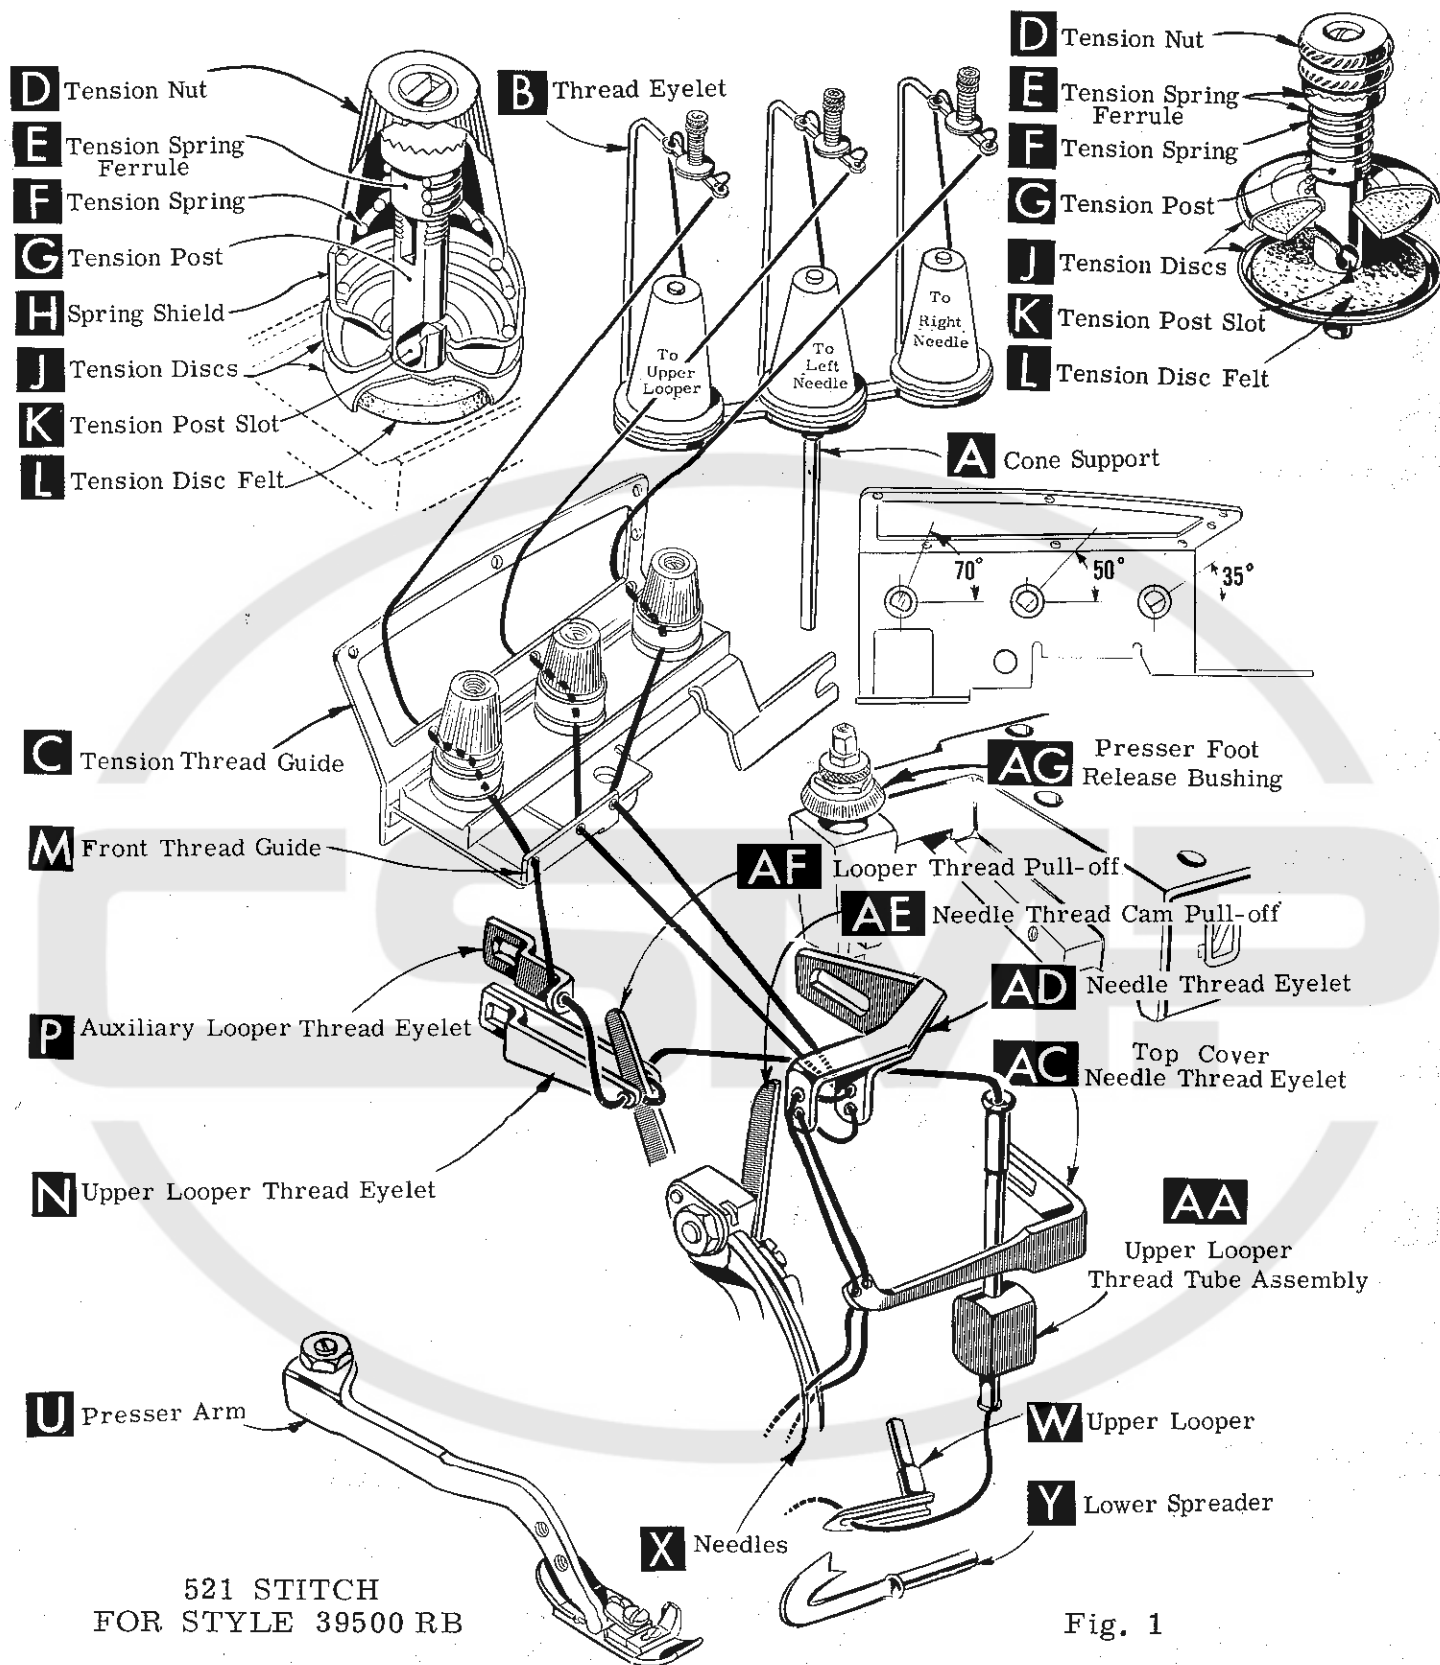
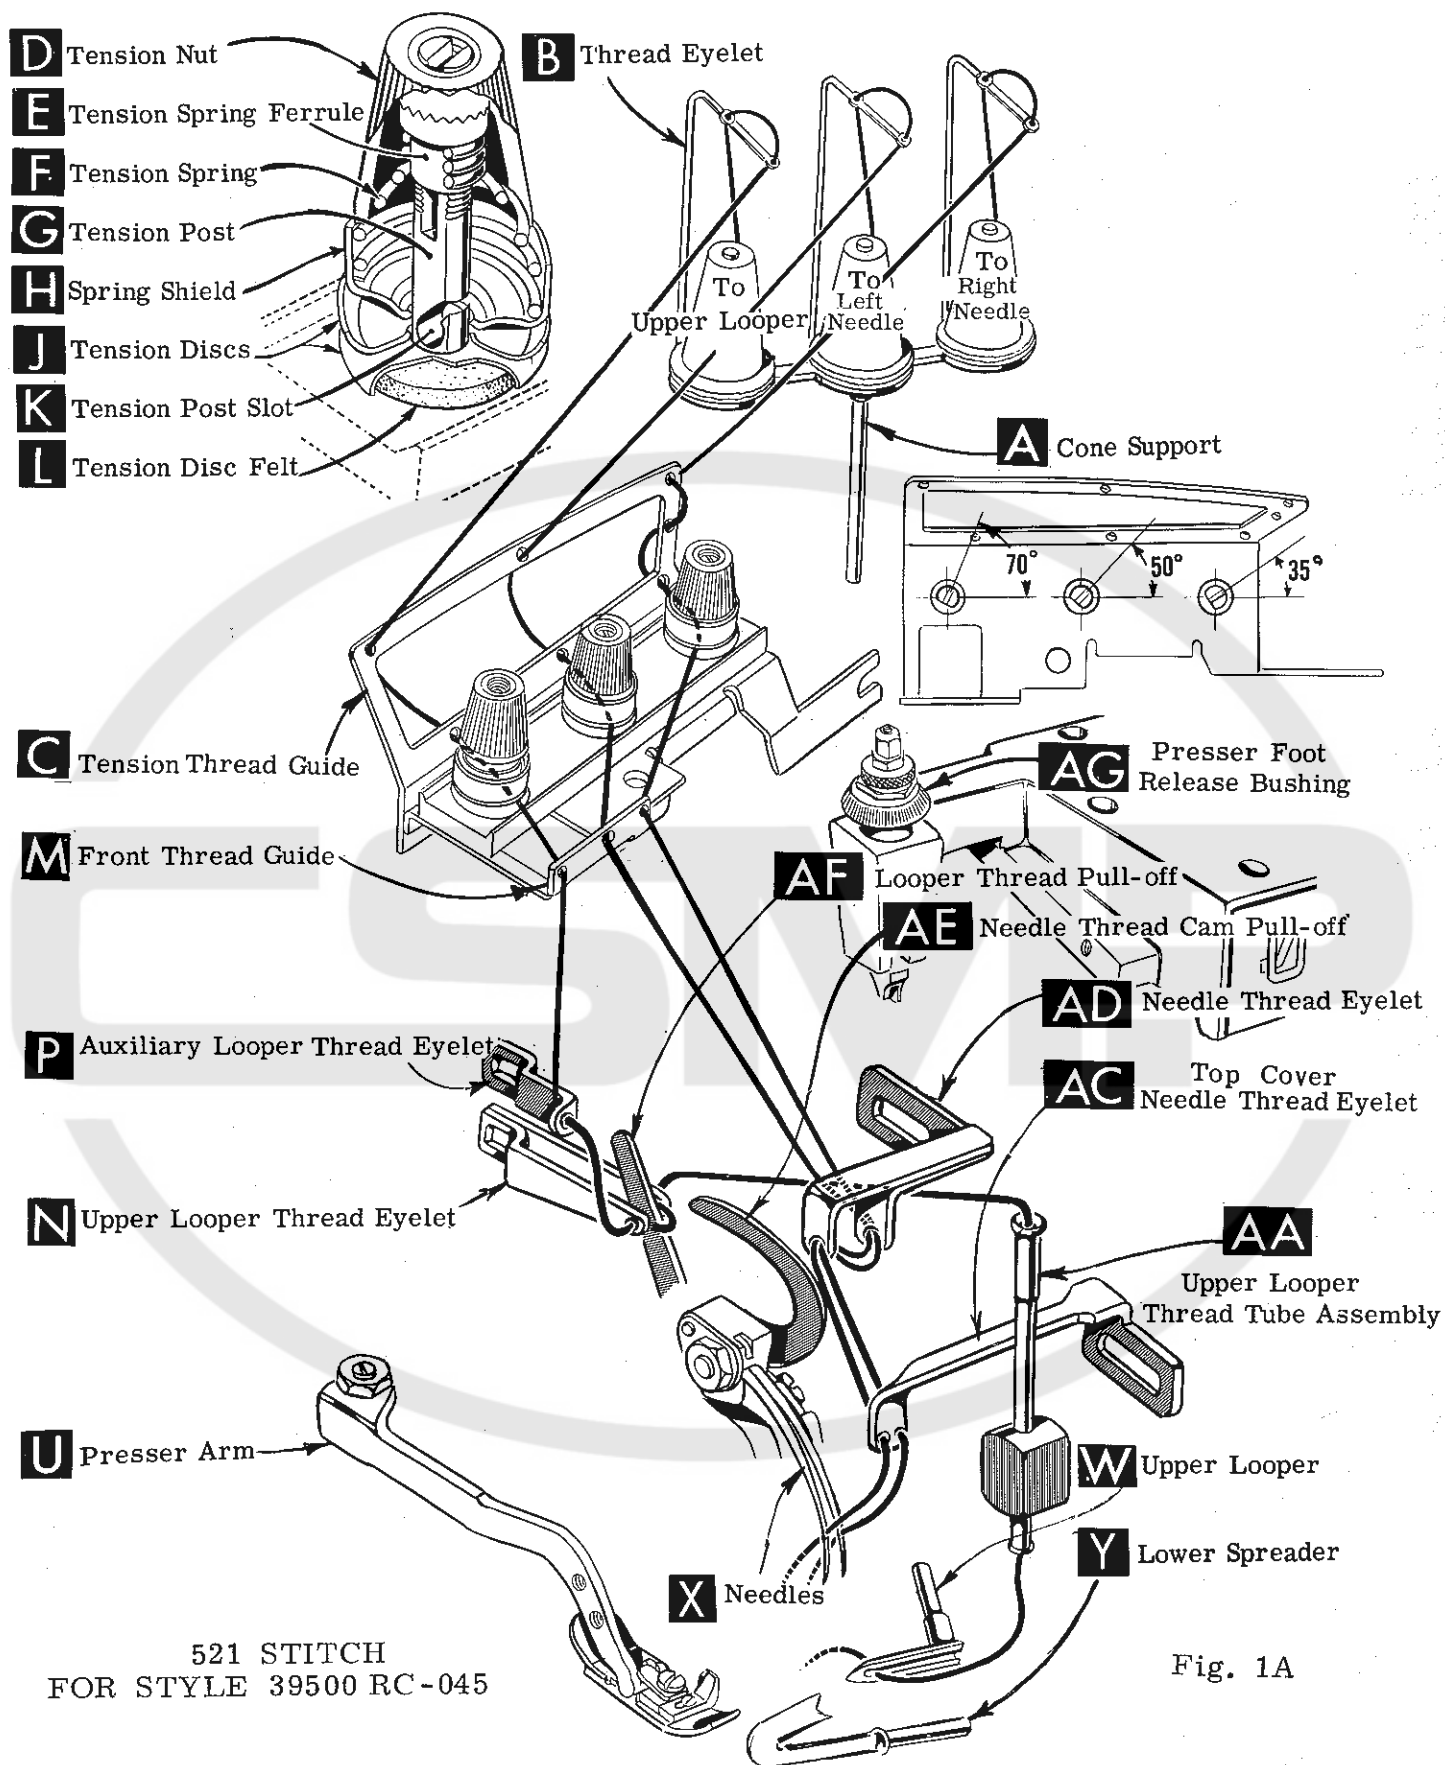
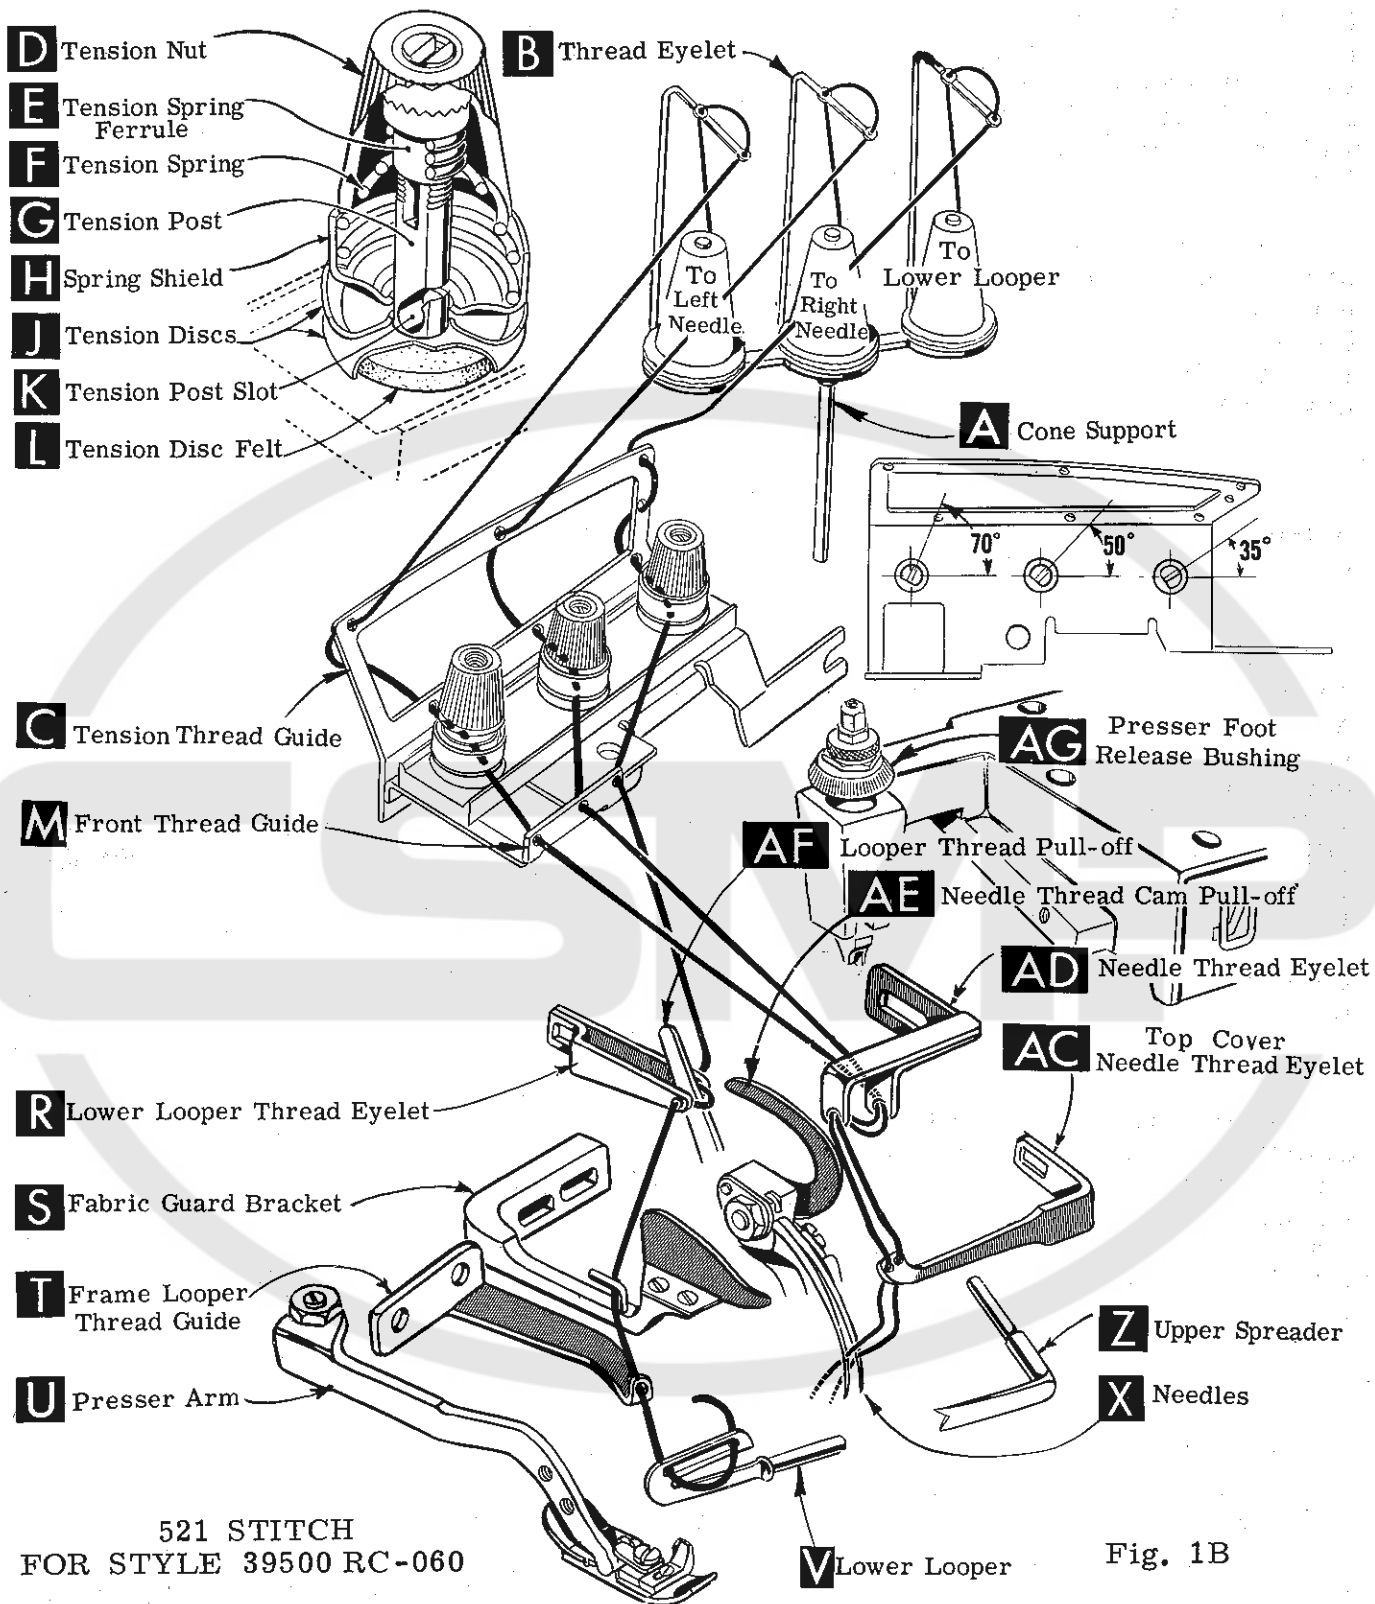

Fig. 1
Fig. 1A
Fig. 1B
Release pressure on presser foot by turning presser foot release bushing (AG, Fig. 1, 1A or 1B) and swing presser arm (U) out of position. Turn handwheel in operating direction until needles are at their lowest point of travel. Using hexagonal socket wrench No. 21388 AU, furnished with machine, loosen needle clamp nut about 1/4 turn. Again turn handwheel until needles are at high position. Withdraw needles.
After thread comes from cones on cone support (A, Fig. 1) it is brought up through the back hole of thread eyelet (B), then continues between tension disc felts (L), through tension post slot (K) of tension post (G), and down through front hole of thread eyelet. Now all threads are threaded through the lower holes of tension thread guide (C) from back to front.
After thread comes from cones on cone support (A, Fig. 1A) it is brought up through the back hole of thread eyelet (B), then down through the front hole of thread eyelet.
Now, the upper looper thread and the left needle threads are threaded through the upper holes (left and middle respectively) of tension thread guide (C, Fig. 1A) from front to back. Then through the lower holes from back to front. The right needle thread is threaded through the tension thread guide (C), first through the upper hole back to front, second through the middle hole front to back and third through the lower hole back to front.
After thread comes from cones on cone support (A, Fig. 1B) it is brought up through the back hole of thread eyelet (B), then down through the front hole of thread eyelet.
Now, the left and right needle threads are threaded through the upper holes (left and middle respectively) of tension thread guide (C, Fig. 1B) from front to back. Then through the lower holes from back to front.
Only parts involved in threading are shown in threading diagrams (Fig. 1, 1A and 1B). Parts are placed in their relative positions for clarity. Refer to Fig. 1 for threading of Style 39500 RB, Fig. 1A for threading of Style 39500 RC-045 and Fig. 1B for threading of Style 39500 RC-060.
Be sure the threads, as they come from the tension thread guide (C) are between tension discs (J) and in tension post slot (K) in tension post (G). The tension posts should be positioned so the tension post slot will be at the approximate angle for the different threads as indicated in Fig. 1, 1A or 1B.
Turn handwheel until point of upper looper (W, Fig. 1 and 1A) is all the way left. Lead thread through auxiliary looper thread eyelet (P) from back to front, then through both eyes of upper looper thread eyelet (N) from left to right. NOTE: Thread must pass in front of looper thread pull-off (AF). After pulling up upper looper thread tube assembly (AA), lead the thread under neck of top cover casting and down through thread tube assembly (AA). This is easily accomplished by using the forked end of the threading wire, supplied with each machine. Pull thread out bottom of tube using hooked end of tweezers, also supplied with each machine. Push tube down, and then insert thread through upper looper eye from front to back.
Double end of thread and lead it through both eyes of lower looper thread eyelet (R, Fig. 1B) from right to left. NOTE: Thread must pass in front of looper thread pull-off (AF). Lead thread behind fabric guard (S) and through eyelet hole of frame looper thread guide (T). Turn handwheel in operating direction until heel of lower looper (V) is all the way to the left; then thread through both eyes from left to right. Left eye of lower looper can be threaded easily if tweezers are in left hand.
Turn handwheel in operating direction until needles (X, Fig. 1, 1A or 1B) are at their highest position. Insert both needle threads from right to left, through BOTH eyes of needle thread eyelet (AD), under neck of top cover casting and down through holes in top cover needle thread eyelet (AC). The right needle thread should be threaded in the right hole and the left needle thread through the left hole of the top cover needle thread eyelet. Thread needles from the front.
The amount of tension on the needle and looper threads is regulated by knurled tension nuts (D, Fig. 1, 1A or 1B). Tension on threads should be only enough to secure proper stitch formation.
Be sure machine is threaded according to the diagram for your style of machine (Fig. 1, 1A or 1B). With thread tensions light, set upper looper thread eyelet (N, Figs. 1 and 1A) or lower looper thread eyelet (R, Fig. 1B) about horizontal and back in its front to back location. Operate machine slowly, without presser foot in place, to make sure that chain forms and moves off the tongue freely. Swing presser foot into position, insert material and sew slowly.